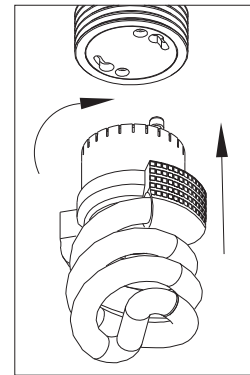

Figure 2
2. **Attach Chain (7) to the Loop (9)** with Lockable Link (8). *Note: Lockable Link is attached to one end of Chain, to open the Lockable Link, turn the tubular nut until opening is wide enough to slide onto Loop. Hold fixture up to ceiling to determine desired length of Chain and remove links if needed. Note: Use pliers to remove links or call Technical Support to purchase additional chain.*
3. **Set fixture assembly securely on flat surface** and thread Threaded Pipe (4) into Canopy Loop/Nut (5) attached to the end of Chain. Hold Canopy Loop/Nut by Loop, place Canopy (6) over Threaded Pipe and install the Crossbar (1) to Threaded Pipe. *Note: Canopy will rest on the Canopy Nut.*
4. **Route the ground & fixture supply wires through** every fourth link of chain and through center of 1-3/4" Threaded Pipe (4) in Crossbar (1). Trim ground & fixture supply wires to extend approximately 6" beyond Threaded Pipe and strip 1/2" insulation from ends of wires. **See Fig. 2.**
5. **Take fixture assembly by the Chain (7)**, loosen Canopy Nut (5) completely and slide Canopy (6) down. Have one person help to support fixture while mounting Crossbar (1) to junction box with two 1-1/2" Screws (2). **See Fig. 2.**
10. **To install Lamp (14) insert pins into socket (11)** and rotate clockwise until secure. **See Fig. 2.**